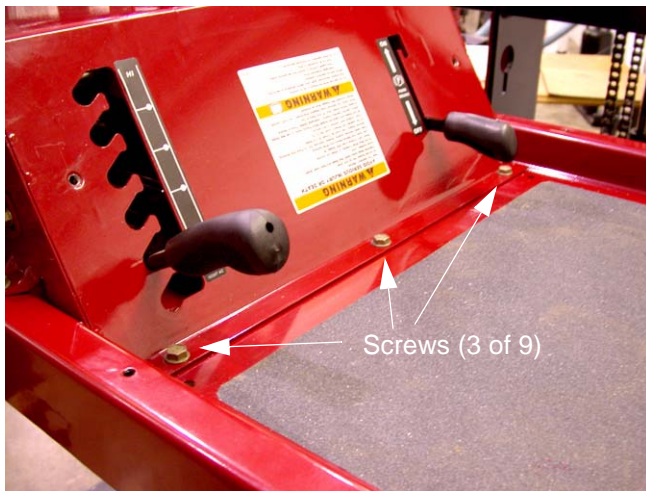

Figure 17.6
- 17.6. Using the same 1/2" socket, remove the other eight screws securing the seat box frame. There are a total of two in the rear, two on each side and three in the front for a total of nine. See Figure 17.6.